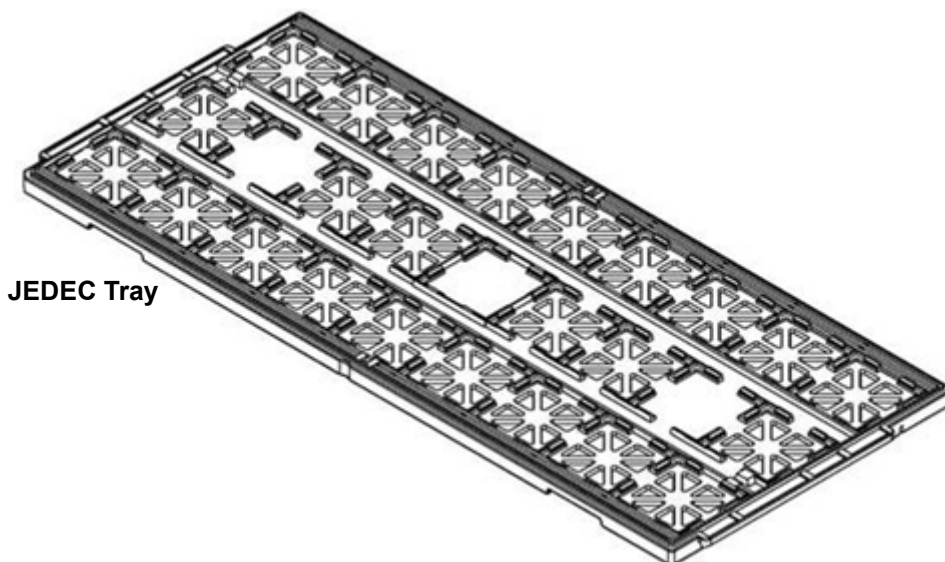

Figure 35. JEDEC Tray Example
- Freescale complies with standard JEDEC tray design configuration – See Figure 35.